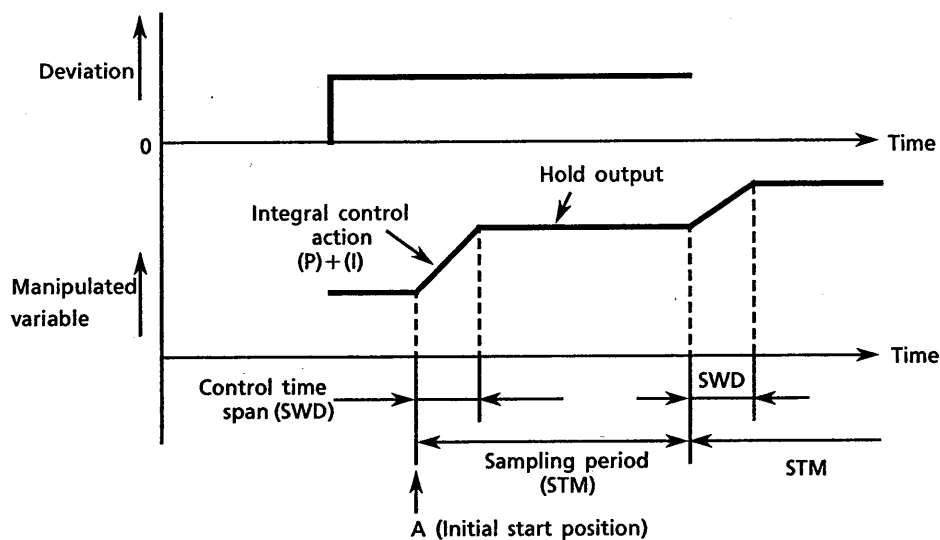

Figure 3.6.1 Sample-and-Hold PI Control Operation
Sample-and-hold PI control is illustrated in Figure 3.6.1.
- $M \rightarrow A$  : Resets and starts from the point A in Figure 3.6.1.